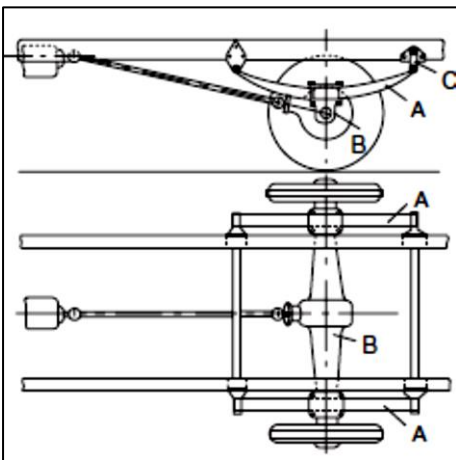

Figure 1
2. From the following Figures 1 & 2, differentiate the Hotchkiss drive with Torque Tube drive.